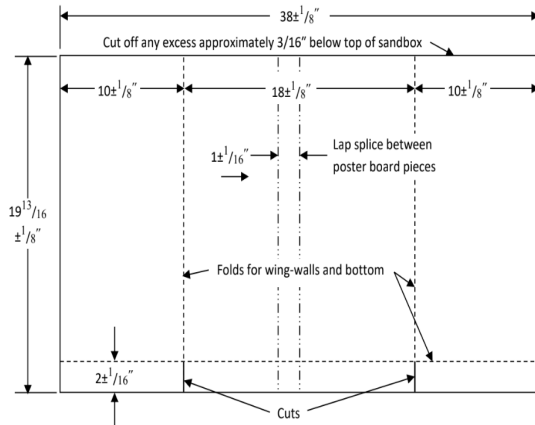

Figure 2: Poster Board Dimensions
- I. **Reinforcement Fabrication Stage:** Each team will be given a sheet of 60 lb kraft paper 24" x 24". Reinforcement elements will be fabricated using authorized construction tools. Fifteen (15) minutes will be allotted for this phase, after fabrication is over the competition judges will weigh the reinforcing elements to the nearest 0.01 grams.
- II. **Wall Assembly Stage:** After the previous stage is complete the teams will be provided with two poster-board papers 22"x28" and a roll of packing tape. The tape will be used to join the poster-board sheets together through a single lap slice along with the reinforcement elements (Figure 2). No sand is added into the box during this stage and fifteen (15) minutes will be allotted for this stage.